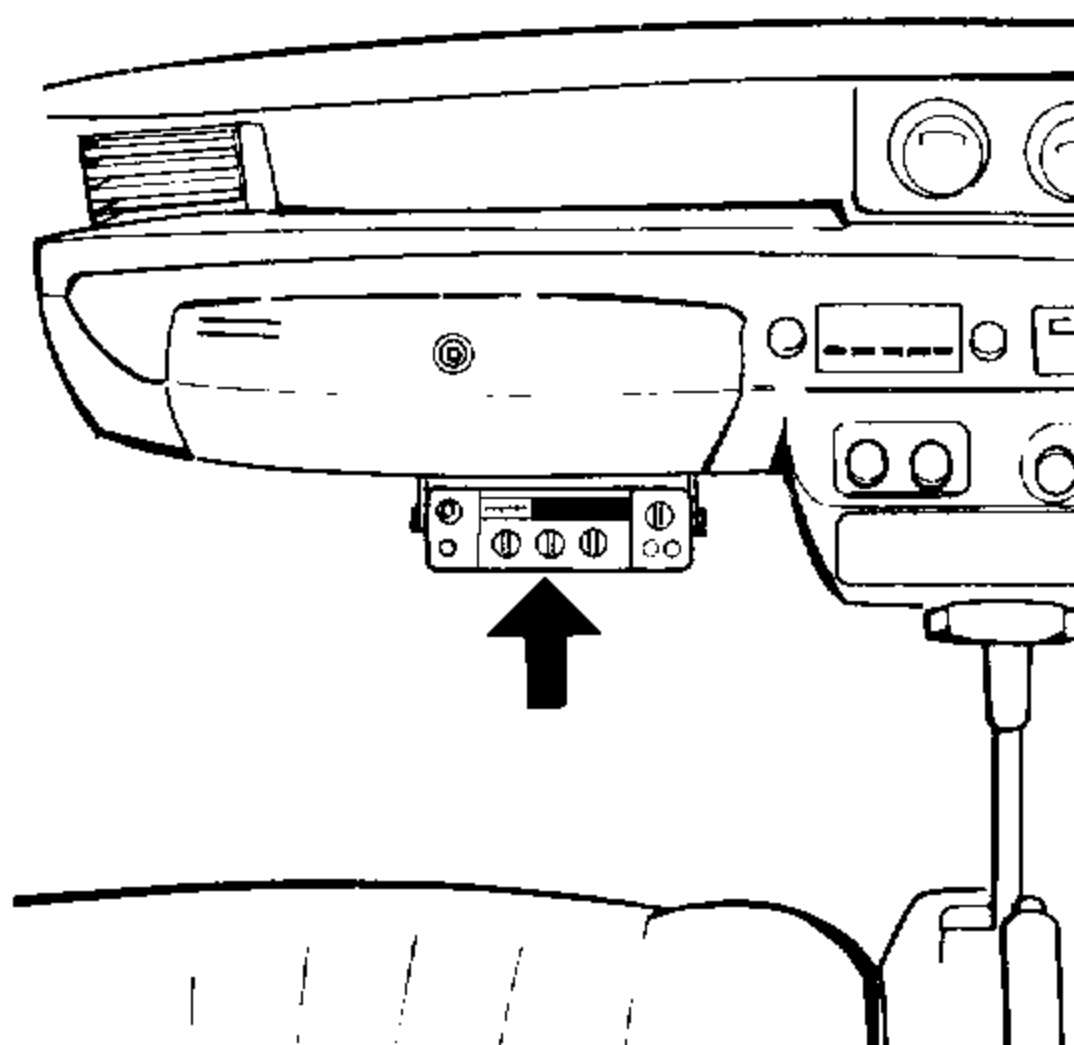

Fig. 1 An example showing mounting position
The best possible positions for the mounting are shown in Fig. 1. Do not expose the set to direct sunlight.
2) Turn the three SYNTHE knobs to the desired receiving frequency until it is displayed. (See Fig. 1.)